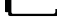

**Figure 1-1** Installing the batteries
- 1 **Open the battery cover.** Loosen the screw with a suitable Phillips screwdriver and remove the battery cover as shown in Figure 1-1.